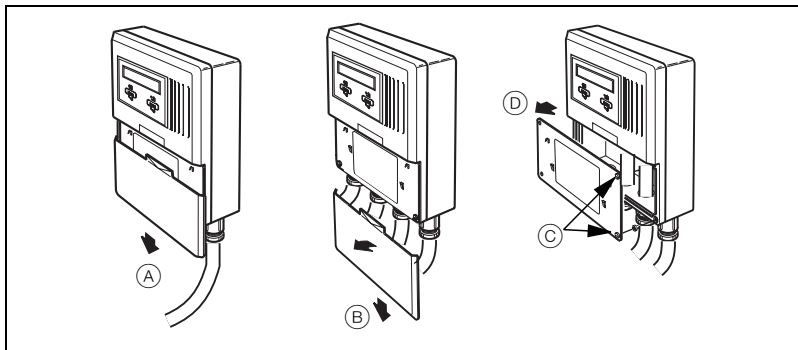

Fig. 3.1 Removing the MagMaster Covers
1. Turn off the power to the MagMaster and remove the covers – see Fig. 3.1.